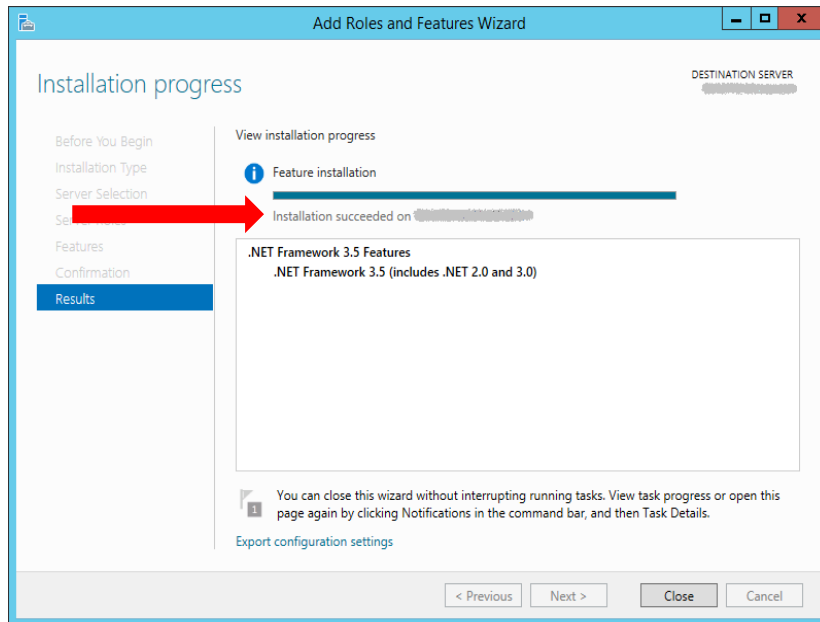

Figure 9 - Result section of Add Roles and Feature wizard
10. Click **Install** to start the installation process. At the end of a successful install, the **Results** section shows the installation status displaying the message **Installation succeeded** (as show in *Figure 9*).